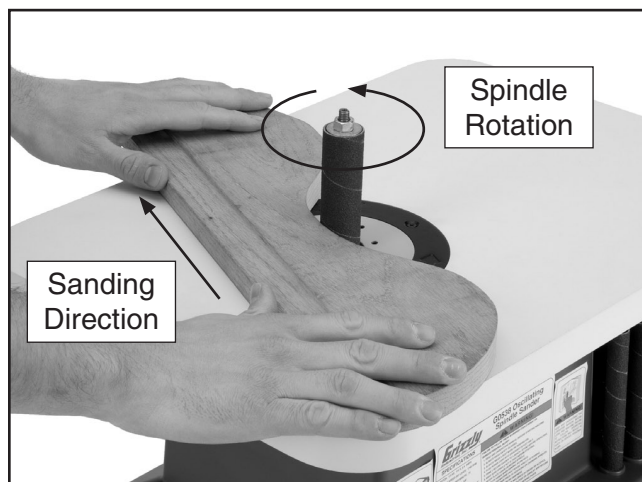

Figure 10. Sanding.
3. Using both hands, guide the workpiece against the sanding sleeve in a right-to-left direction, as shown in **Figure 10**. **DO NOT** force the workpiece against the sanding sleeve.